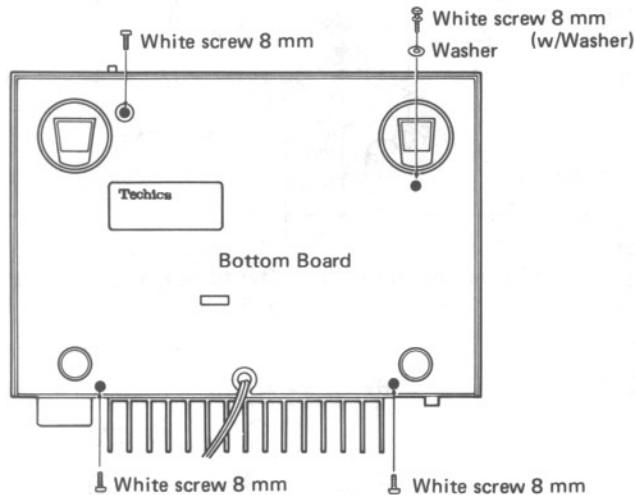

Fig. 1
1. Turn the set upside down and remove 4 setscrews on the bottom board. (Fig. 1)